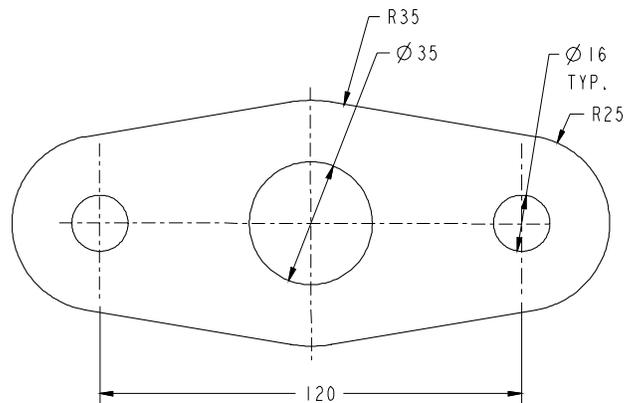
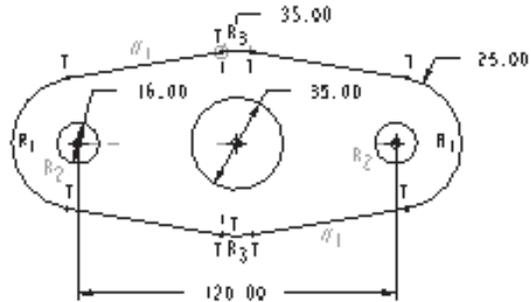

Figure 2-27 Sketch for Tutorial 3
Figure 2-32 The required sketch with constraints and dimensions
Draw the sketch shown in Figure 2-27 using the **Intent Manager**. (Expected time: 30 min)
4. Modify all the dimensions. Refer to Figure 2-27 or Figure 2-32 for dimension values.